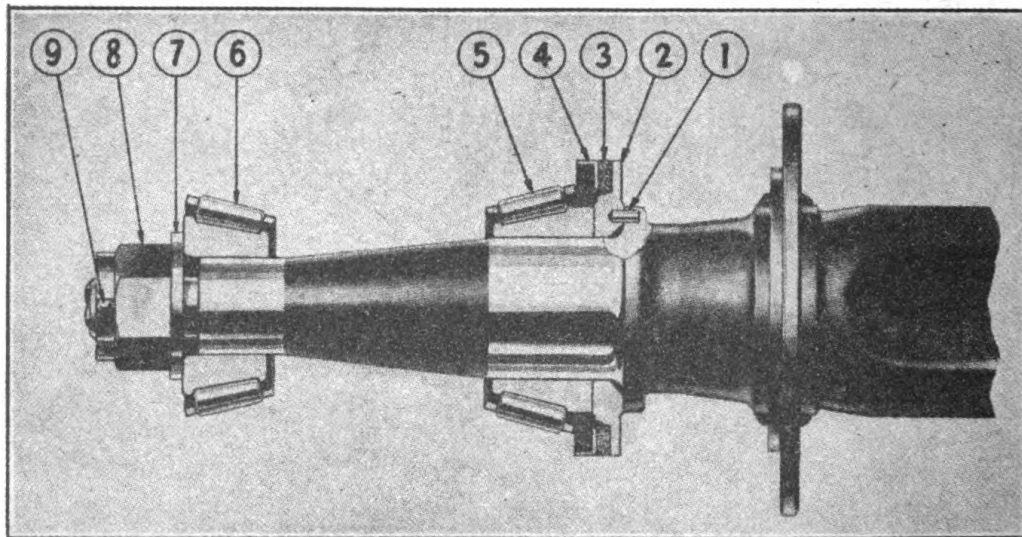

FIGURE 71. AXLE—CUTAWAY VIEW
(2) To install the hub, proceed as follows (Figure 71).
b. Replacement.—(1) NOTE: Before installing the hub on the axle all bearings should be washed in cleaning fluid and scrubbed with a stiff brush. Bearings should be thoroughly inspected for pits, chips, and signs of wear. Inspect inner and outer cups for cracks, chips and excess pitting. All dirt apt to get into hub should be removed.
(2) CAUTION: Always install felt, felt retainer, and bearing in hub assembly instead of on axle spindle.
(3) *Installation of hub* (Figure 71): (a) Repack the space in the hub between the two cups with new grease. Put about a 1/8” layer of grease on the inner and outer bearing cups and repack both inner and outer bearings.